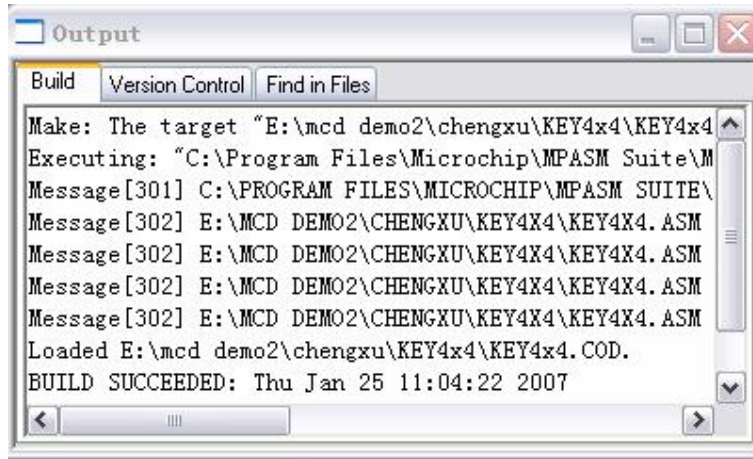

Figure 5-2 Source compiling results
3) Implement the menu command Project → Build ALL or the icon  in the tool bar to compile the source code. The compiled results will be shown as Figure 5-2. We can see from the figure as "BUILD SUCCEEDED", which indicates that the compiling is successful and it has created a KEY4x4.HEX file under the directory of the project (only compiling succeeds can it create such a file).